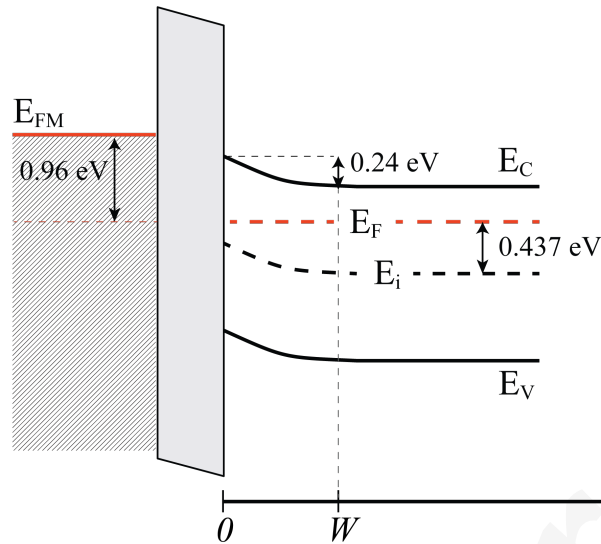

Figure 1: Energy band diagram of MOSCAP
6. (9 marks) The energy band diagram of a MOSCAP device is sketched in the figure 1 below. Assume that the electrostatic potential is zero in the semiconductor bulk, (i.e. at large distance from Si-SiO₂ interface) and that there is no metal-semiconductor workfunction difference. Assume the relative dielectric constant of the oxide to be $\epsilon_{ox} = 3.9$. (Take $n_i = 10^{10} \text{ cm}^{-3}$, $kT = 26 \text{ meV}$, $E_g = 1.1 \text{ eV}$, $\epsilon_s = 11.8$)